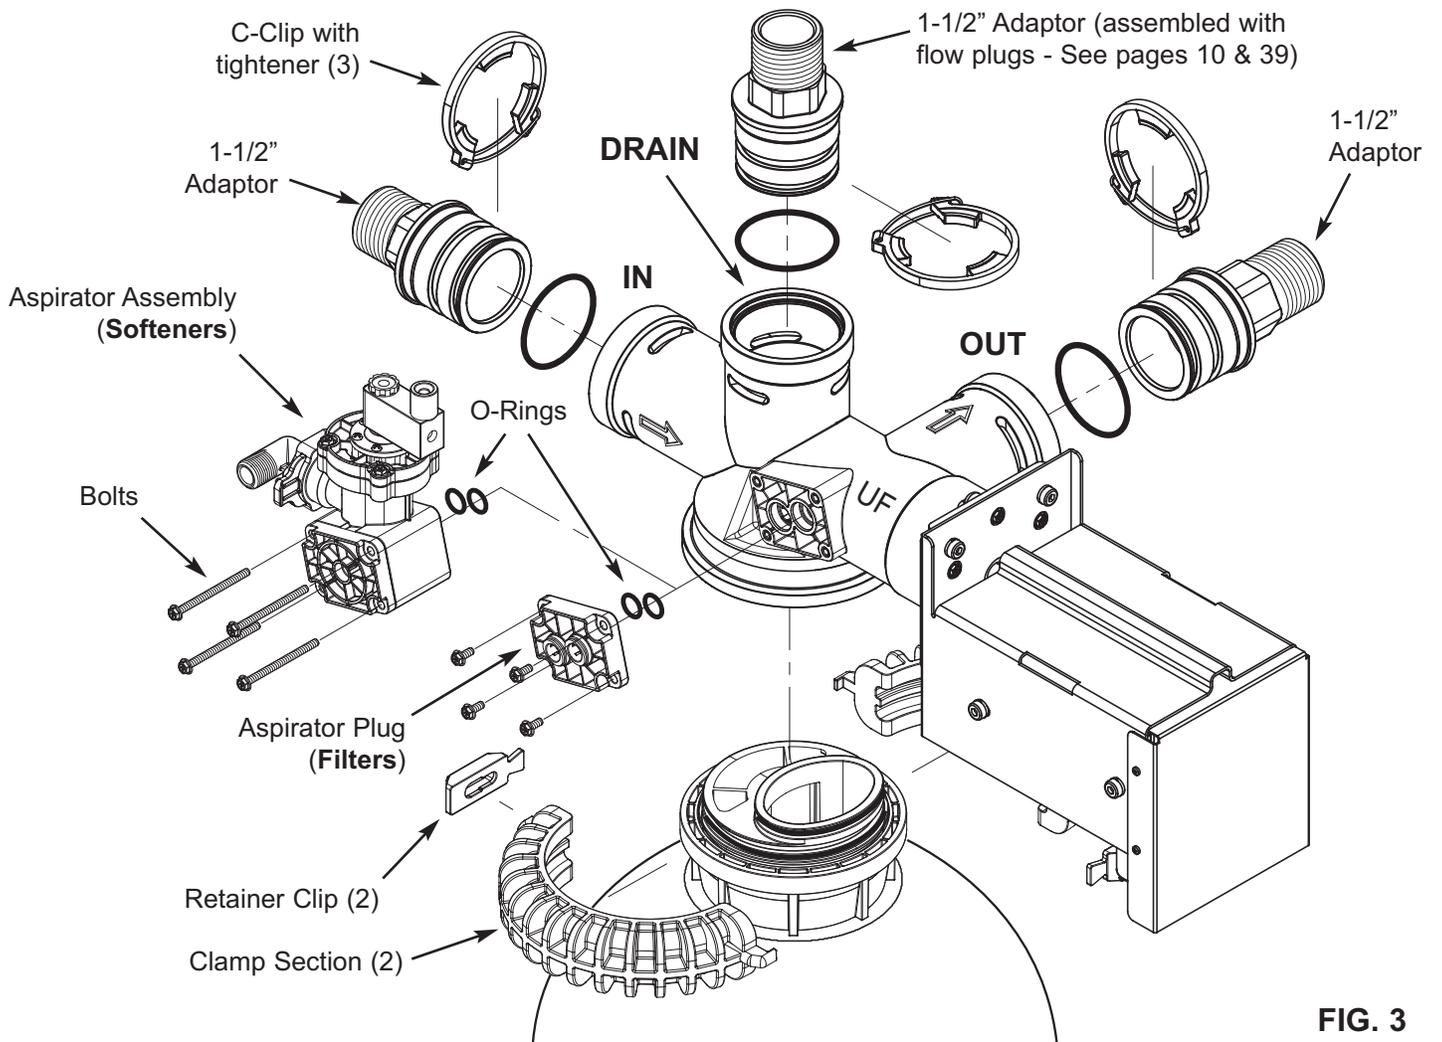

FIG. 3
14. Using 56.52 mm O.D. o-rings, c-clips and tighteners from the valve parts kit, install 1-1/2" threaded adaptors in the inlet and outlet valve ports (Figure 3). **Be sure the c-clips and tighteners are secured in place.**
15. Softeners only: Locate the 1-1/2" threaded adaptor in the aspirator kit. It is factory assembled with drain flow controls. Using 56.52 mm O.D. o-ring, c-clip and tightener, install it in the valve outlet port (Figure 3). **Be sure the clamps and retainers are secured in place.**
16. Filters only: Locate the 1-1/2" threaded adaptor in the filter kit. Assemble, as shown in the included instruction sheet (also on page 10), using the flow control components appropriate for the filter size and media. Using 56.52 mm O.D. o-ring, c-clip and tightener, install it in the valve outlet port (Figure 3). **Be sure the clamps and retainers are secured in place.**
17. Softeners only: The aspirator assembly contains the required components to control brine and rinse rates for **upflow** regeneration applications at medium water pressures (shaded rows in chart on page 10). If these conditions apply to this installation, do step a below. Refer to Figures 3 and 4, page 9.